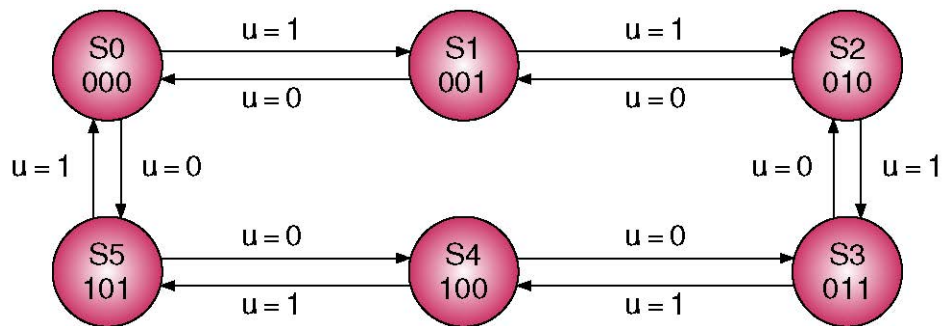

Figure 3 State transition diagram of the counter
4. Figure 3 shows the state transition diagram. The arrowed lines indicate the transitions of the states under the condition of the input. Figure 3 also shows that a 3-bit unique code is assigned to a state. Any code can be assigned to any state as long as all the codes are unique.